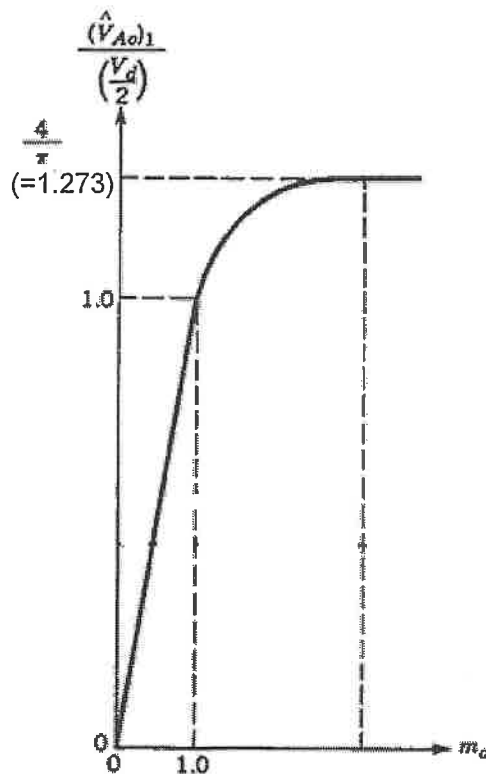

Figure 4.2
- b) In a certain application, the available dc input voltage to this inverter is 600 V. The required fundamental frequency of the output voltage is 50 Hz. It is also required to maintain the switching frequency  $f_s$  to 1450 Hz and the amplitude modulation ratio  $m_a$  to 0.8. Answer the following questions with the help of Figure 4.2,
whenever necessary. Note that all the notations have their usual meaning in Figure 4.2.
- Q5 a) A three-phase load is supplied by a three-phase inverter. The dc input voltage to the inverter is 600 V. Answer the following questions with the help of Figure 4.2, whenever necessary. Note that all the notations have their usual meaning in Figure 4.2.